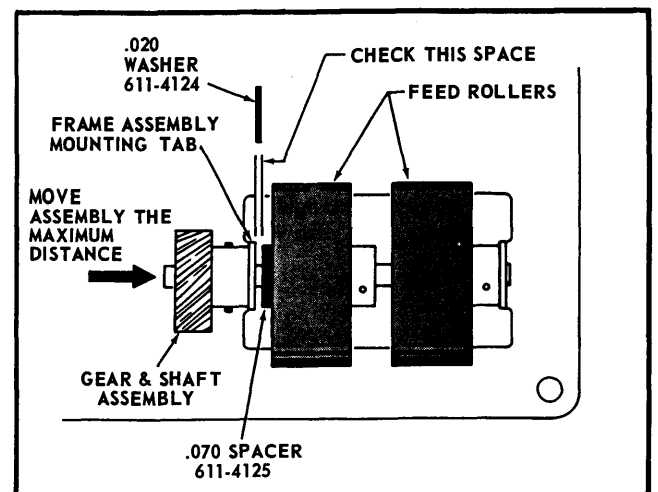

Figure 9.
J. Move the Gear Shaft and Feed Roller Assembly toward the mounting tab. With the Gear touching the mounting tab use one of the .020" thick Washers, part number 611-2124, included in the Kit as a gauge and check the space between the mounting tab and the Spacer installed in step II-F. The space should be no larger than the .020" thickness of the Washer. See Figure 9.